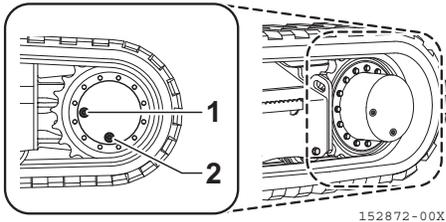

Fig. 8-49
1. Set the position of the drain port (**Fig. 8-49, 2**) to the lower side.
2. Place a container receiving waste oil under the level port (**Fig. 8-49, 1**).
4. When the oil quantity is insufficient, ViO80-7: remove the plug of the oil supply port (**Fig. 8-49, 3**) and replenish gear oil through the oil supply port until gear oil overflows from the level port (**Fig. 8-49, 1**). SV100-7: replenish gear oil through the level port (**Fig. 8-49, 1**) until gear oil overflows from the level port (**Fig. 8-49, 1**). Refer to Section "4. Fueling, Oiling and